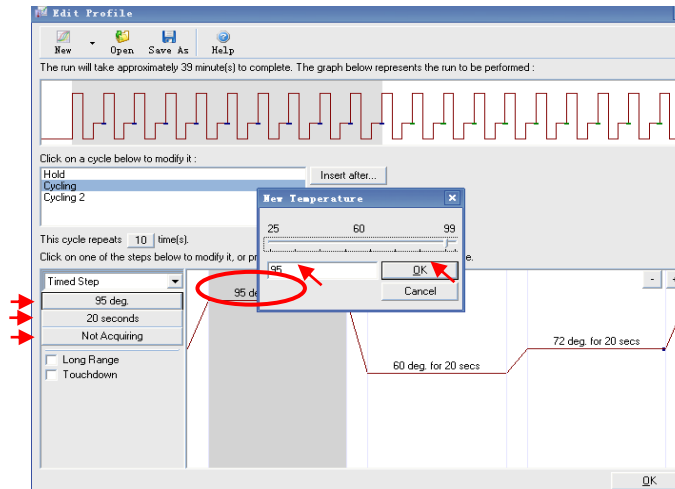

Figure 8
c. Choose the first step of cycling, click on buttons on the left and set the temperature as 95 degrees, time for 20 seconds, choose “not acquiring” for this step, and then click on “OK” (Figure 8).